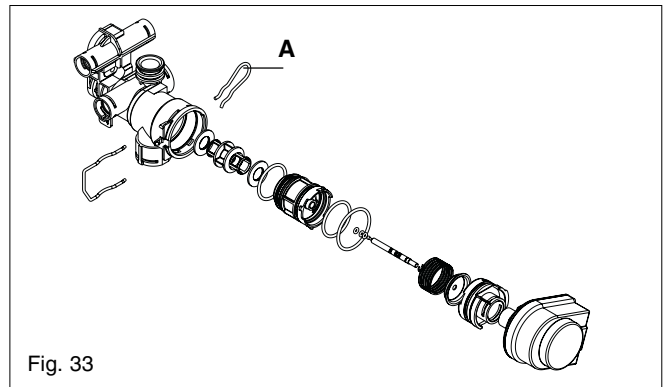

Fig. 33
6.20.5 DIVERTOR VALVE ASSEMBLY (fig. 33)